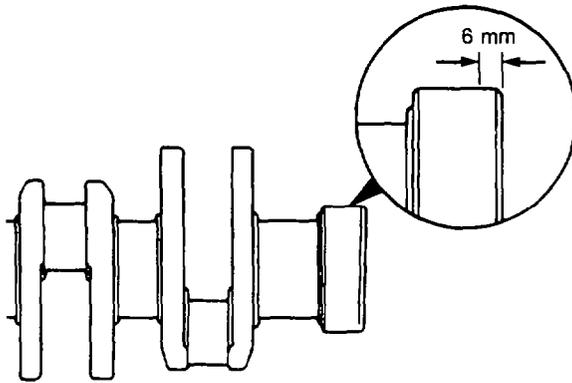

Figure 33 — Crankshaft Rear Seal Area Runout
- ay. Move the dial indicator to the rear of the crankshaft with the plunger positioned approximately six mm from the rear face of the crankshaft (see Fig. 33). Zero the dial indicator, then rotate the crankshaft one complete revolution,